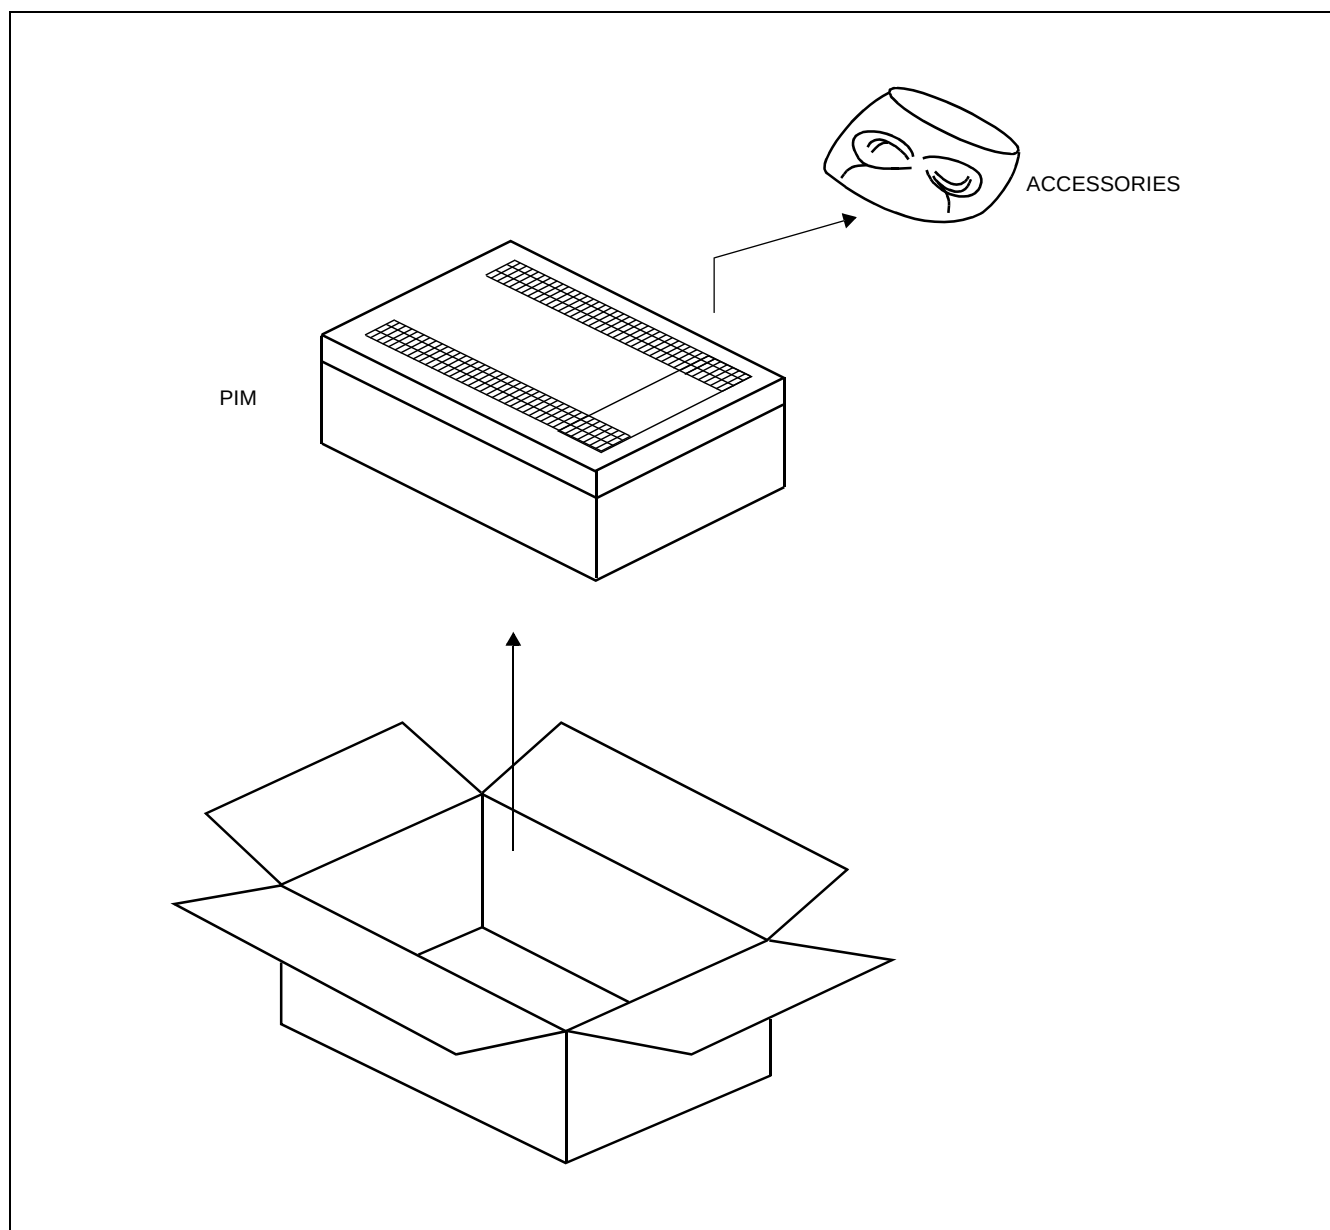

Figure 001-1 Unpacking Main Equipment
- (1) Check the received quantity of packages containing the PBX system with the description on the shipping document.
- (2) Check the packaging for external damage done by transportation and record it as necessary.
- (3) Unpack the packaging (see Figure 001-1).
- (4) Check the quantity of equipment and materials unpacked with the shipping document.
- (5) Perform visual inspection, checking for the following items: